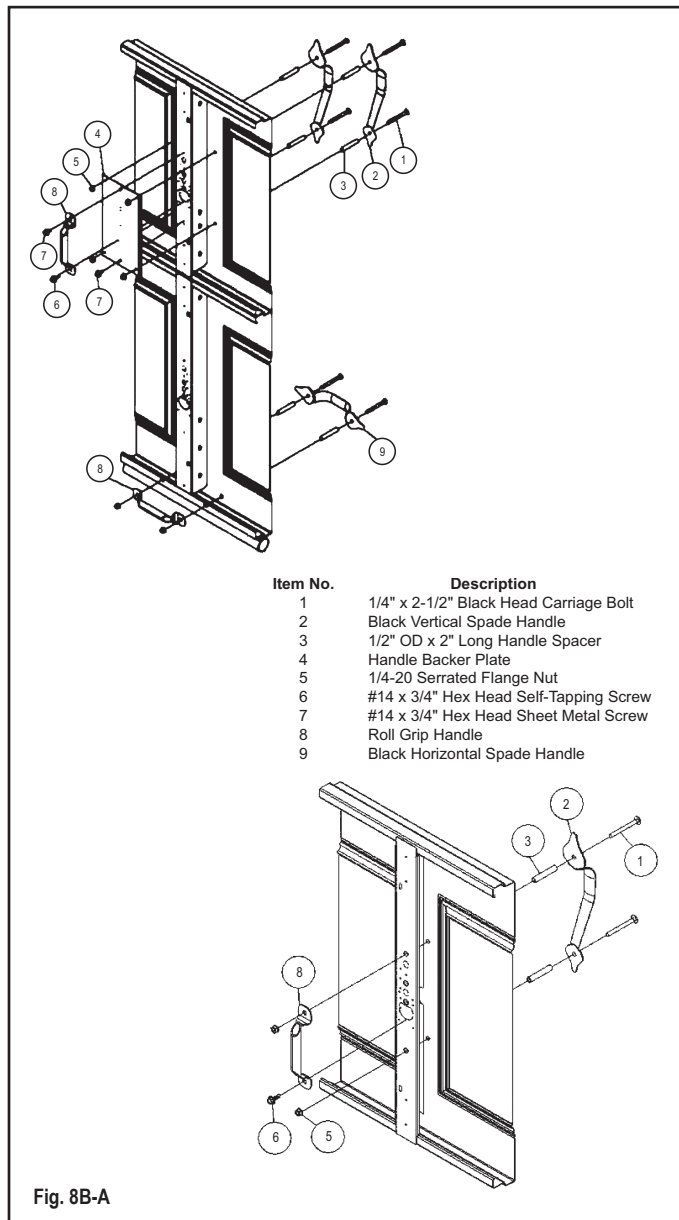

Fig. 8B-A
- Secure with 1/4" flange nut (Fig. 8B-A).
- Attach handle backer plate to back of door with (2) #14 x 5/8" sheet metal screws through inside roll grip handle and into the inside skin (Fig. 8B-A).
- Secure on the inside with 1/4" flange nuts. Do this for each handle (Fig. 8B-A) Skip to STEP 8-9.
- Slide (2) 1/4" black head carriage bolts through vertical handle, handle spacers, door section and through backer plate.
- Attach bottom of roll grip handle with a #14 x 5/8" sheet metal screw into the backer plate (Fig. 8B-A).